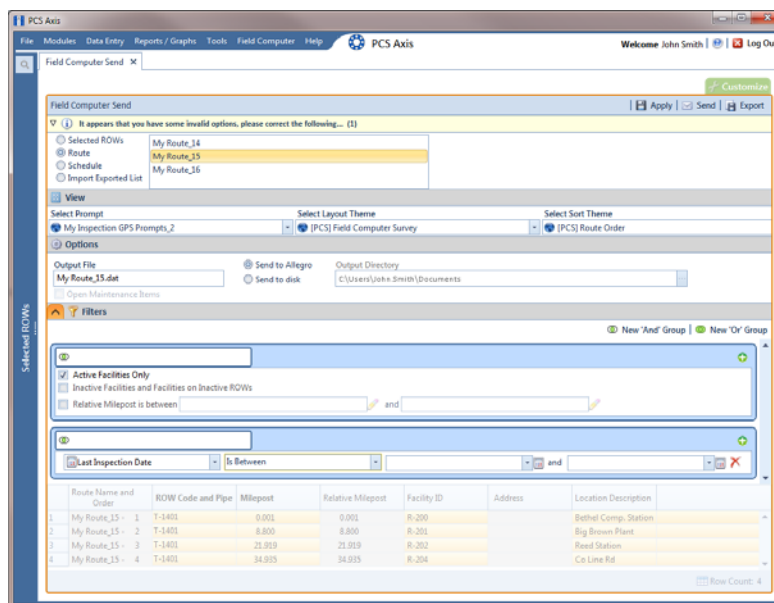

Figure 8-37. New 'And' Filter Group
- 24** If you want to add a new AND filter group, complete the following steps. With an AND filter group, PCS Axis includes a subset of records that meet *all* filter conditions defined for the filter group. Records are filtered in the grid and in the route sent to the Allegro (Figure 8-37).